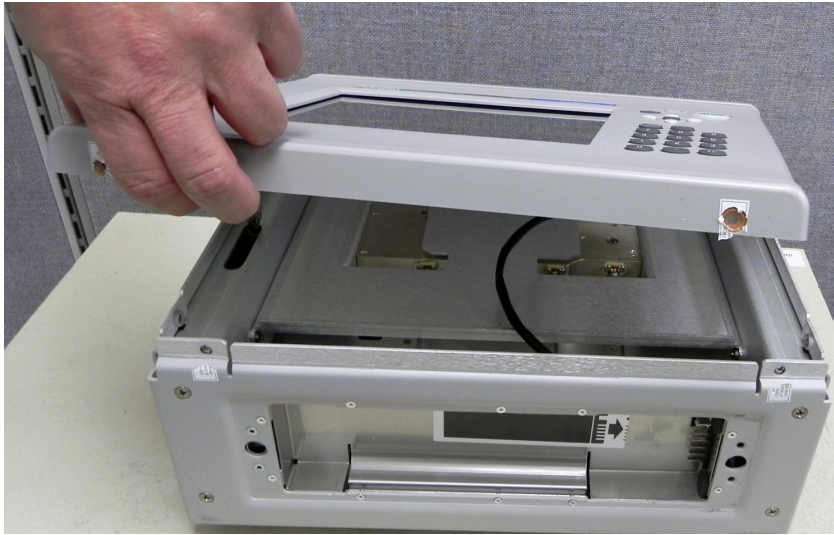

Figure 5-7. LCD Cable Connector
7. Carefully raise the bottom edge of the front panel and unpeel the Kapton tape on the LCD cable connector (left side under the Front Panel). Remove the connector (Figure 5-7).